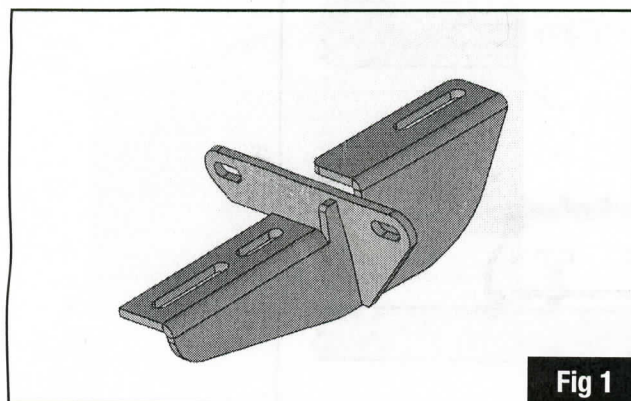
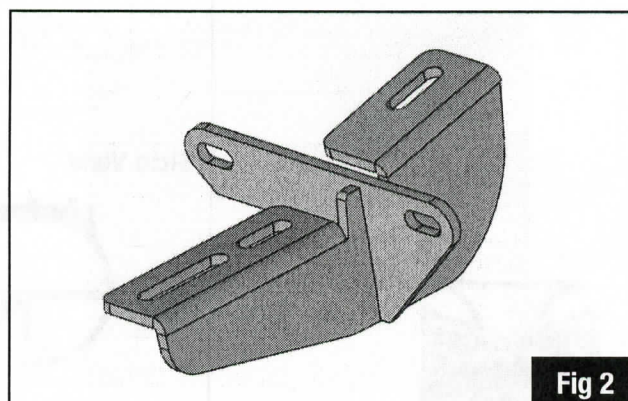

Fig 1
Fig 2
1) Separate the brackets in your kit, there are (4) FRONT (**Fig 1** passenger side) and (2) REAR (**Fig 2** passenger rear).